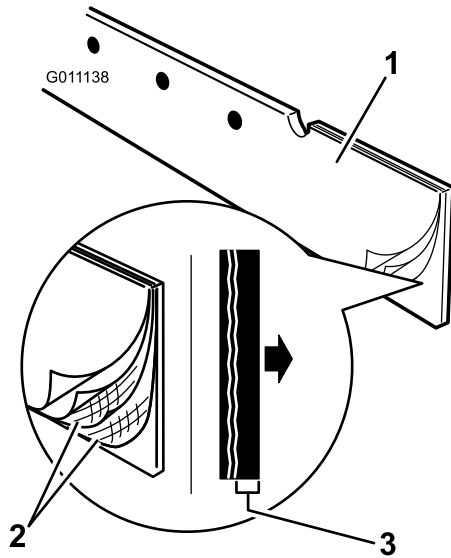

Figure 11
- Position the wiper so that the rubber edge is forward and the fiber-reinforced part of the cross section is to the rear (Figure 11).